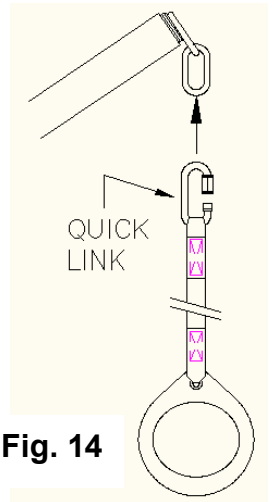

Fig. 14
9. Open the quick links on each Just for Kids Ring and mount them to the Ring Frame. **Close the quick links securely. (See Fig. 14)**